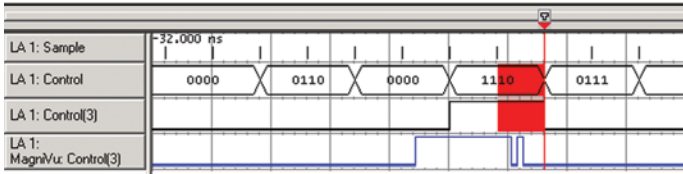

Figure 3. MagniVu™ waveform of Control (3) showing glitch.
In this example, it appears there may be two different problems causing glitches. First, focus on the Control (3) signal line and show the MagniVu trace for the Control (3) signal. Figure 3 shows that because of its higher resolution, MagniVu waveforms can reveal that the glitch only appears at the end of a digital pulse – not at the beginning of the pulse and not by itself. This is an important clue to the cause of the fault. Proceeding to Step IV will reveal the likely cause.